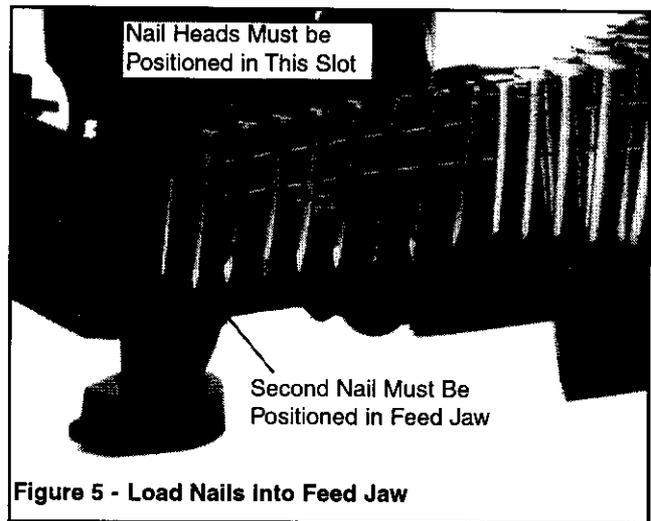

Figure 5 - Load Nails into Feed Jaw
- Unwrap coil so that second nail can be placed between sides of feed jaw. The ram (Fig. 10, No. 16) may need to be pushed up to fit in the first nail. Make sure that the nail heads are positioned in the slot at the top of the nail feed rack (see Figure 5).